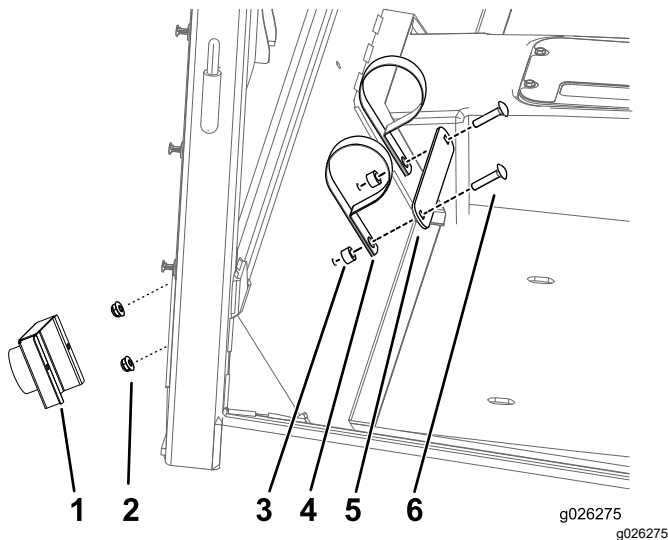

Figure 47
1. Install the *Operator's Manual* tube (Figure 47).